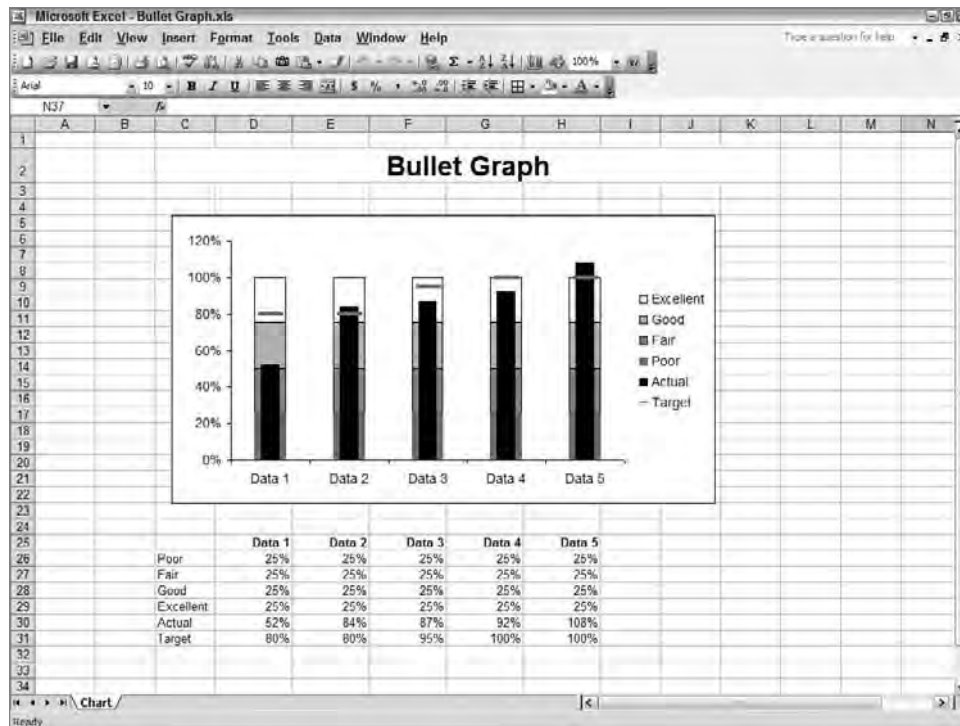

Figure 24.6: Bullet graphs display a great deal of information in a small space.
Figure 24.6 shows a bullet graph with its component parts labeled. The bullet graph in the figure is vertical, but bullet graphs can be horizontal as well. Bullet graphs are not a predesigned format in Excel and take some work to create, but once you've created one, you can plug in new data, and you're done.
1. Enter only the data shown in Figure 24.6 in range C25:D31. More data will be added later to create additional bullet graphs. (You can have as many alert levels as you wish. This example shows four.)
Now format the target value segment so that it will appear as the independently floating marker shown in Figure 24.6. The target marker is the floating dash in Figure 24.6. To format this:
Add data by entering additional data to the right of the data, as shown in the range C25:H31 in Figure 24.6. Then select the chart. This will put handles around the data, as shown in Figure 24.12. Select the data series handle at the bottom of D31 in Figure 24.12, and drag it to the right to include all data. When you release the handle, all the data series will be charted as bullet graphs, as shown in Figure 24.13.